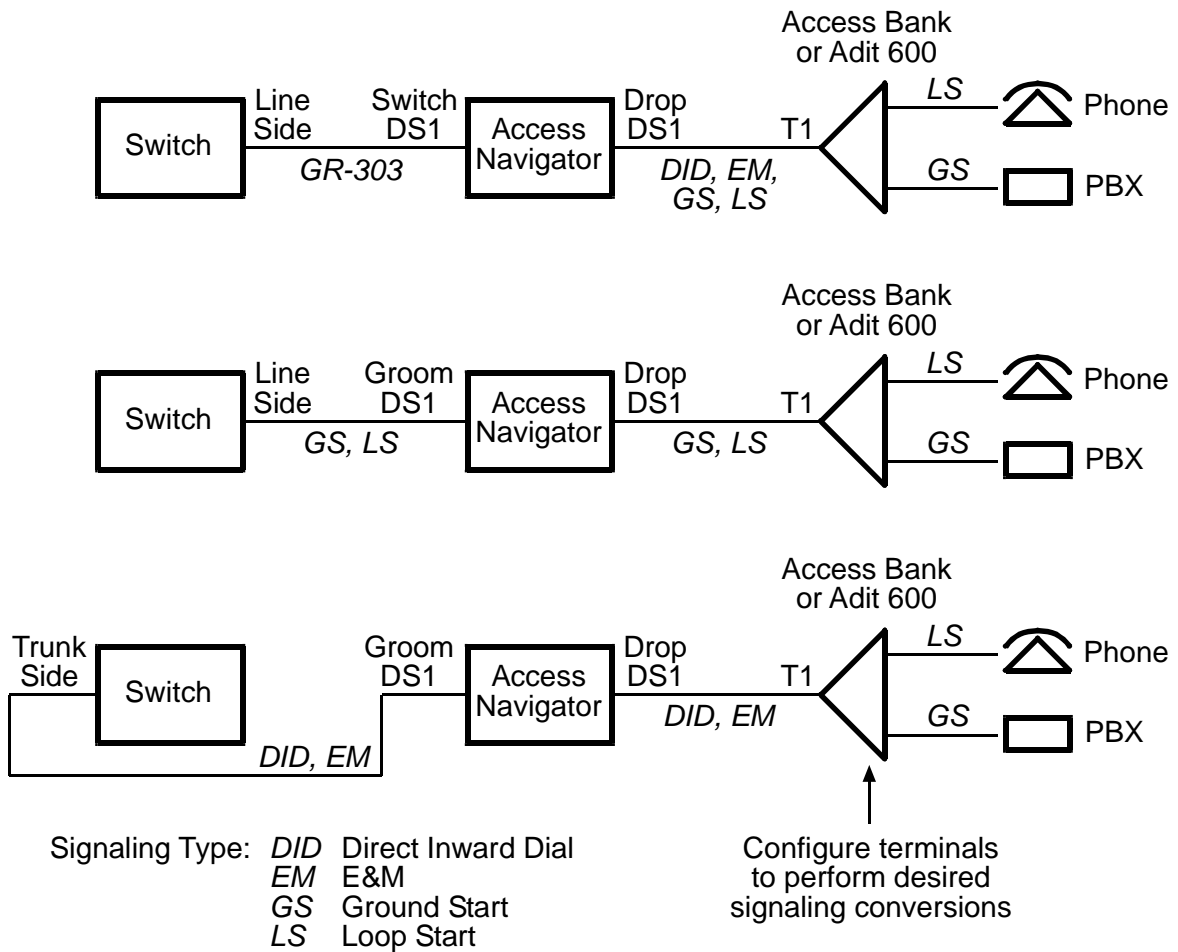

Figure 18-27. Signaling Used in Common Applications
**Purpose:** Specifies the signaling on the DS0 channel. The Access Navigator supports Direct Inward Dial (DID), E&M, Ground Start, and Loop Start signaling. Figure 18-27 shows the signaling used in common Access Navigator connections to switch and drop DS0s. The signaling methods shown in this figure are typical and may differ from your requirements.